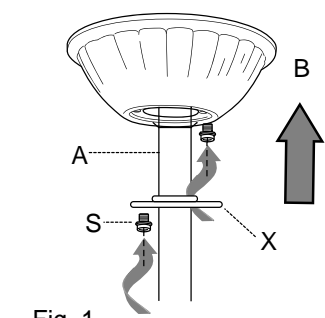

Fig. 1
1. Locate two canopy mounting screws (S) on underside of mounting bracket (C) and remove screw (S) closest to the open end of the hanging bracket (C). Partially loosen the other screw (S). Lift canopy (B) to mounting bracket (C). Place rounded part of slotted hole in canopy (B) over loosened screw (S) in hanging bracket (C) and push up. Twist canopy (B) to lock. Re-insert screw (S) that was removed, and then tighten both screws (S) securely. Slide canopy cover (X) up to canopy (B), aligning rounded part of slotted holes in canopy cover (X) with screwheads in bottom of canopy (B). Turn canopy cover (X) to the right (clockwise) until it stops. [Fig. 1]